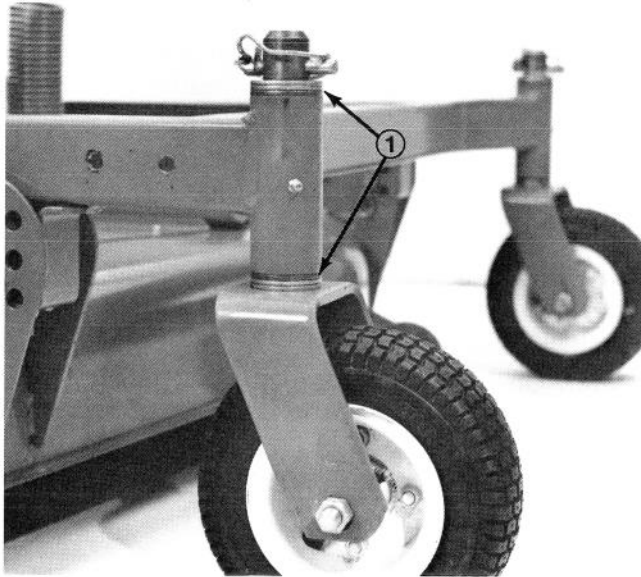

Figure 15
4. Insert pin punch into top or bottom of mounting tube and drive bushing out of tube (Fig. 15). Also drive other bushing out of tube. Clean inside of tubes to remove dirt.